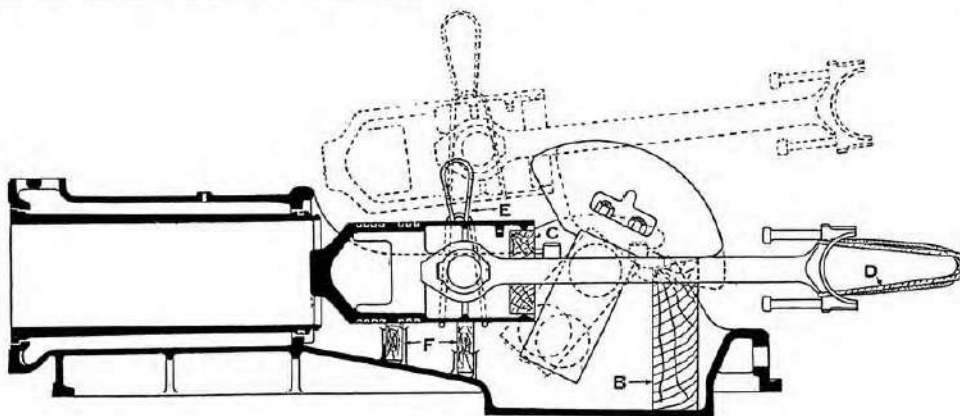

Fig. 49.
- (7) Lower the rod end until it is in line with the centre line of the piston, and pack the rod in this position by placing pieces of wood **C** inside the piston at both top and bottom.
- (8) Pass a rope sling **D** round the large end and bring the sling forward between the balance weights so that a lever may be inserted in the loop. Then pull the piston out of the liner until the first ring appears.
- (9) Pass another sling **E** around the body of the piston and attach it to pulley blocks, fixed overhead, and arranged so that the pull will be slightly forward as well as slightly upwards.
- (10) Pull the piston forwards until any further movement is prevented by the crank or weights.
- (11) Remove the wood block **B** from the bedframe, turn the flywheel forwards slowly until the crank is in the dotted line position, as shewn in Fig. 49. Then hoist the piston upwards by means of the pulley blocks, into the upper position shown by dotted lines.